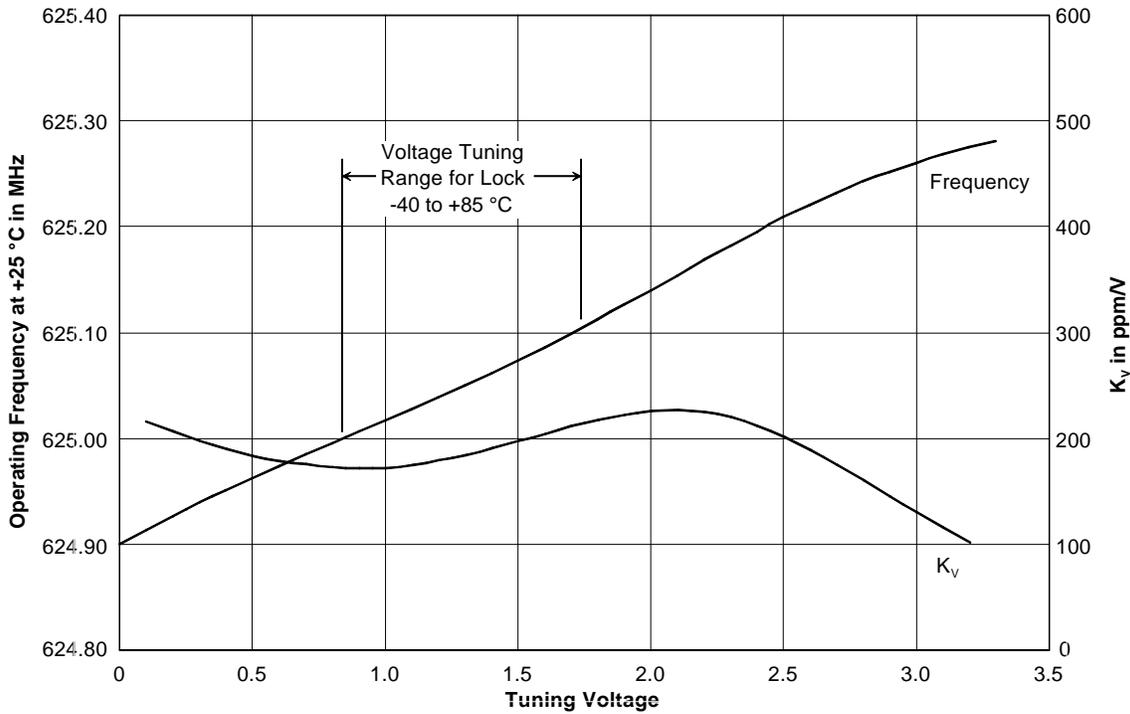

Figure 4
8. See Figure 4.
*Controlled Tuning Characteristics* - the OP4004B voltage tuning constant,  $K_V$ , is bounded between 140 and 300 ppm/V under locked conditions for reference signals with  $\pm 100$  ppm or better stability over the OP4004B's full operating temperature and supply voltage range. This allows a PLL based on the OP4004B to be designed with a well-controlled loop bandwidth and damping factor, avoiding problems such as jitter peaking, etc. The voltage tuning characteristic of the OP4004B is monotonic from 0 to 3.3 V, supporting reliable acquisition of phase lock. Figure 4 shows typical OP4004B tuning characteristics.
The frequency tuning of the OP4004B is characterized over a voltage range of 0 to 3.3 V. The tuning voltage applied to the OP4004B should be limited to this range. Figure 4 shows the typical locked tuning range for operation over  $-40$  or  $+85$  °C. The frequency shift of a quartz SAW frequency control device with temperature has the shape of an inverted parabola, with the highest frequency occurring around  $+25$  °C. At both  $-40$  and  $+85$  °C, there will be a 170 ppm downward shift in the frequency of the SAW device compared to  $+25$  °C. Tuning to compensate for this temperature shift is the same as tuning 170 ppm higher at  $+25$  °C. This is well within the tuning range of the OP4004B, as shown in Figure 4. Note that the voltage tuning constant,  $K_V$ , is bounded between 140 and 300 ppm/V under locked conditions for any temperature within the OP4004B's specified operating range.